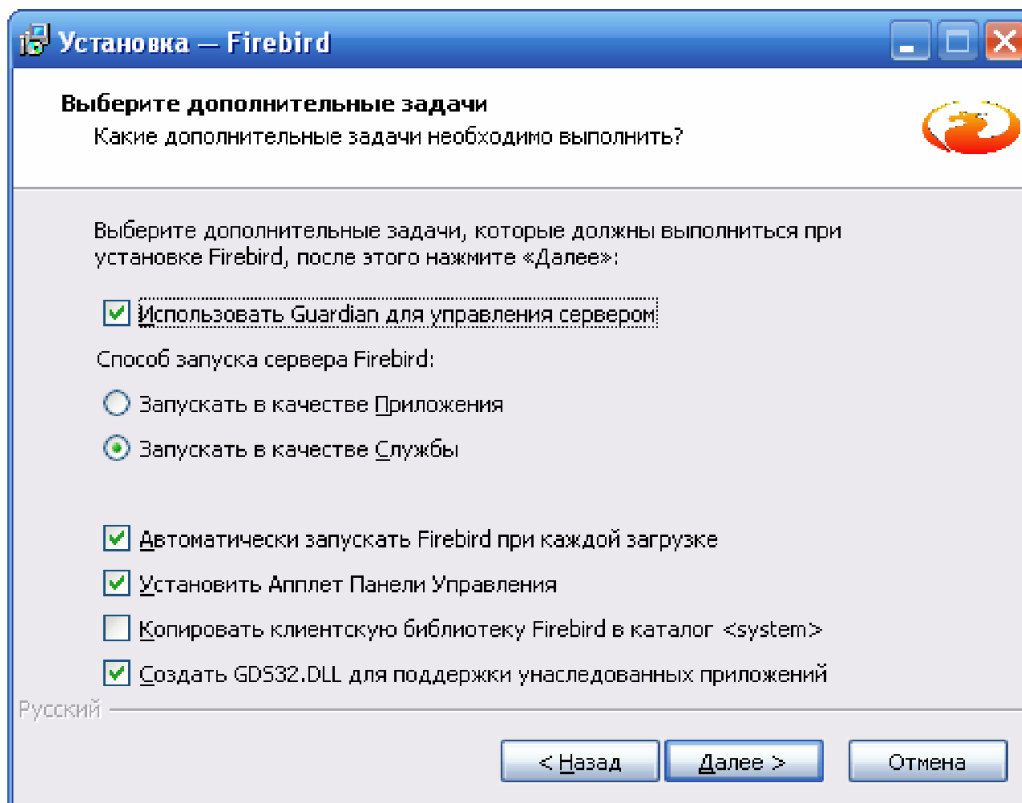

Figure 12. Installing Firebird - step 7.
Step 7 (Figure 12) - selection of additional tasks after installation. All necessary parameters are selected by default. There is no need to change them. Just click the “Next” button.